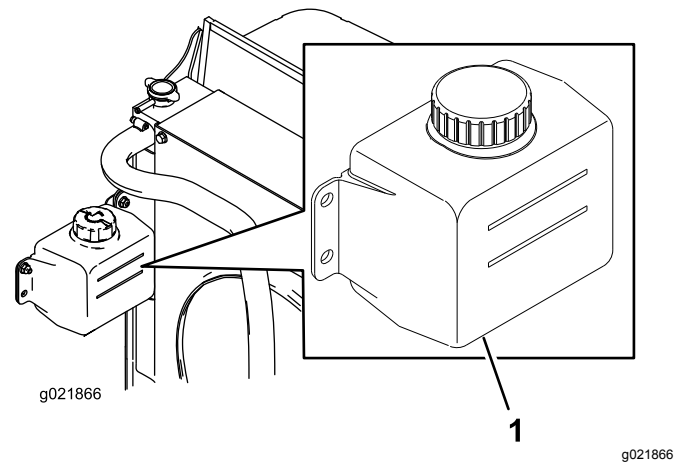

Figure 49
1. Check the level of coolant in the expansion tank (Figure 49).